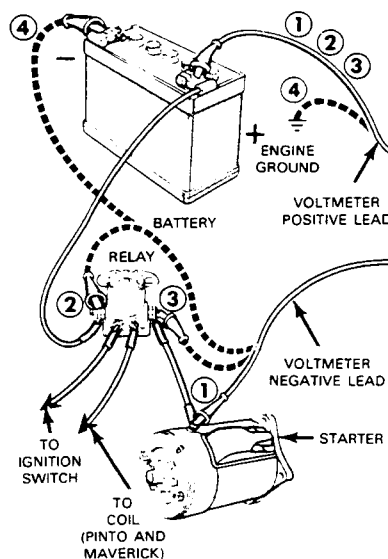

FIG. 2 Starter Cranking Circuit Test
Excessive resistance in the starter circuit can be determined from the results of this test. Make the test connections as shown in Fig. 2. Crank the engine with the ignition OFF. This is accomplished by disconnecting and grounding the high tension lead from the ignition coil and by connecting a jumper from the battery terminal of starter relay to the S terminal of the relay.
1. 0.5 volt with the voltmeter negative lead connected to the starter terminal and the positive lead connected to the battery positive terminal (Fig. 2, connection 1).
2. 0.1 volt with the voltmeter negative lead connected to the battery terminal of the starter relay and the positive lead connected to the positive terminal of the battery (Fig. 2, connection 2).
3. 0.3 volt with the voltmeter negative lead connected to the starter terminal of the starter relay and the positive lead connected to the positive terminal of the battery (Fig. 2, connection 3).
4. 0.1 volt with the voltmeter negative lead connected to the negative terminal of the battery and the positive lead connected to the engine ground (Fig. 2, connection 4).